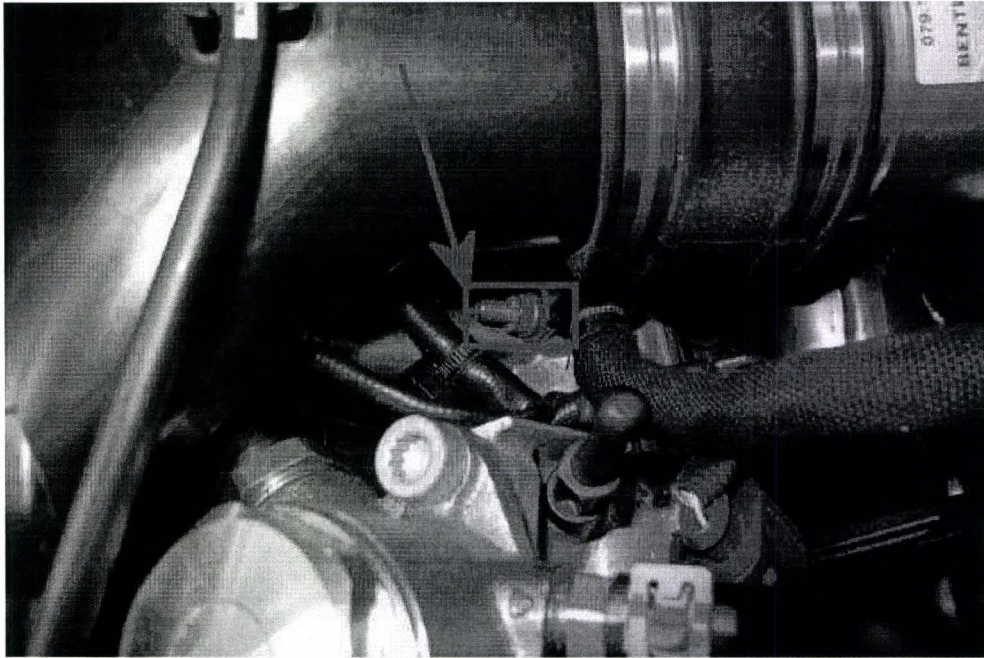

Figure 4
- Undo the 'P' clip fixing stud (Figure 4) and remove the 'P' clip